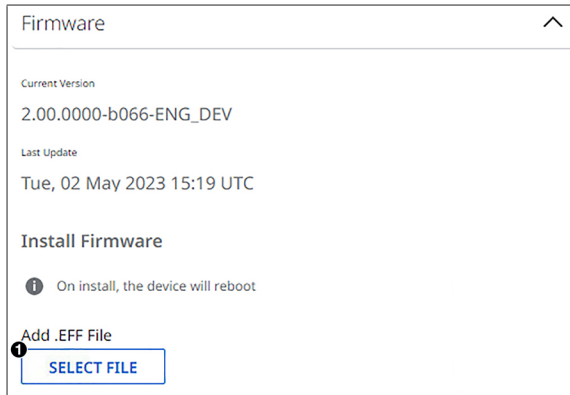

Figure 37. SELECT FILE Button on the Firmware Panel
1. In the Firmware panel, click the **Select File** button (see figure 37, ❶).